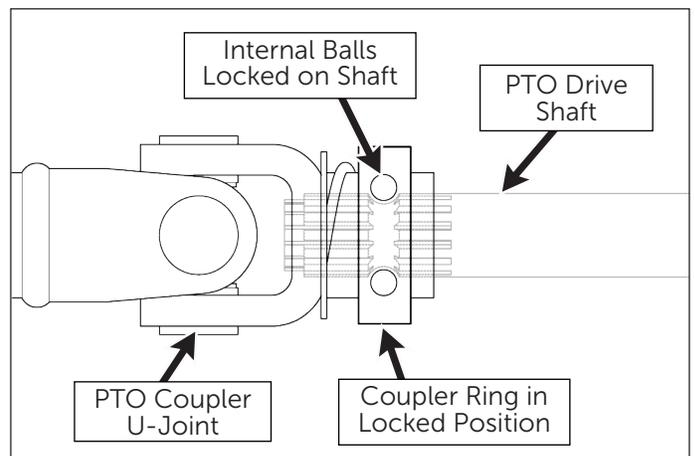

Figure 2.10: Quick Disconnect Ring in "Locked" Position
- Attach the PTO coupler to the tractor PTO shaft. Remove installation tool, and make sure the coupler is secured properly to the tractor PTO shaft, and that the quick disconnect ring is in the **LOCKED** position as shown in Figure 2.10. After installation, pull on the PTO coupler to check for security.